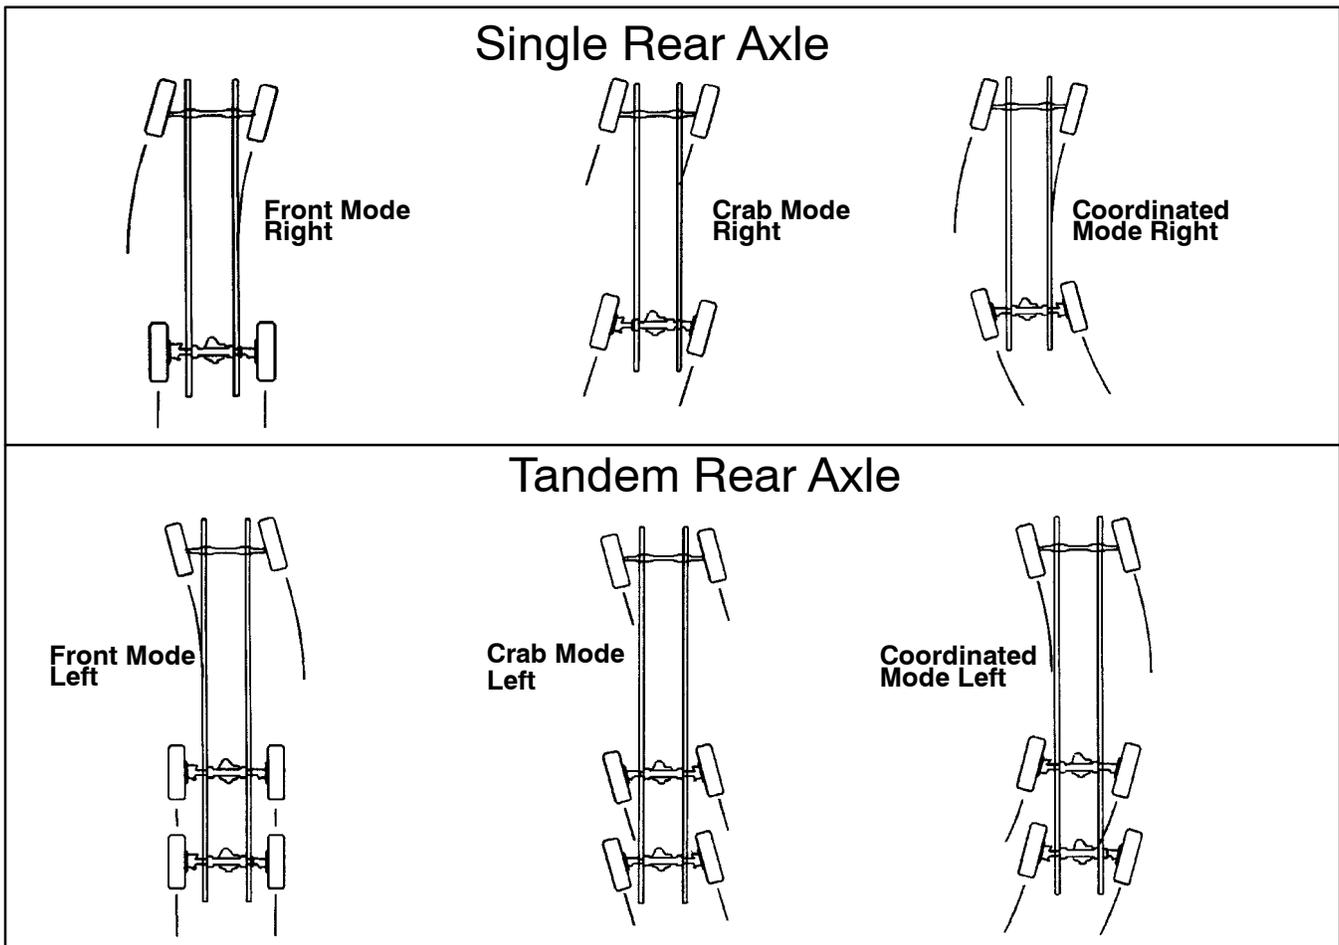

Figure 1. Steering Mode-Single Rear and Tandem Rear Axles
2.1.2 Coordinated Steer Mode. When the ALL STEER® mode selector switch is placed in the COORD STEER position, and the front wheels turn past the programmed deadband (see sections 3.1, 3.4, and Figure 23), the rear wheels turn proportionally in the opposite direction of the front wheels to provide a tighter turning radius, see Figure 1. The coordinated steer mode has a maximum operating speed of 38 mph.
coordinated steer mode. In the fire ground modes, the deadband is smaller than it is in the normal coordinated steer mode, allowing the vehicle to turn even sharper, see Figure 1.
When operating in fire ground-crab steer, the rear wheels turn proportionally in the same direction as the front wheels to allow the vehicle to move sideways in a diagonal manner, see Figure 1.